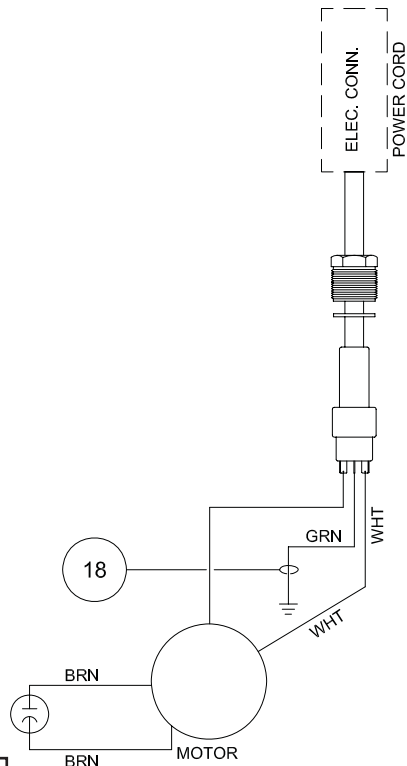

FIGURE 6
Slip motor wires through opening in motor housing (14) see Figure 5. Connect motor wires to cord set as per Figure 6. Place friction ring (9b) and gland nut (9a) into motor housing (14) and tighten gland nut to 17.5 ft. lbs. Place motor housing (14) squarely onto seal plate (2). Tighten socket head screws (15) into motor housing. Refill with cooling oil as per paragraph F-1.3.